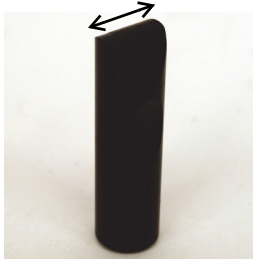

Figure 5-32 The longest face of the probe tip
1. Place the probe between two notches on the standard, position the longest face of the probe tip (see Figure 5-32 on page 149) perpendicularly to the notches, and then press the A-LIFT NULL key (⊕).